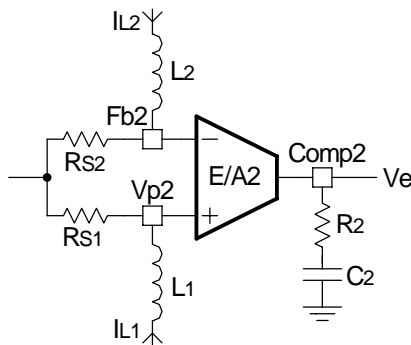

Fig. 21: The Compensation network for current loop
As shown the $G(s)$ is a function of inductor current. The transfer function for compensation network is given by equation (23), when using a series RC circuit as shown in figure21.